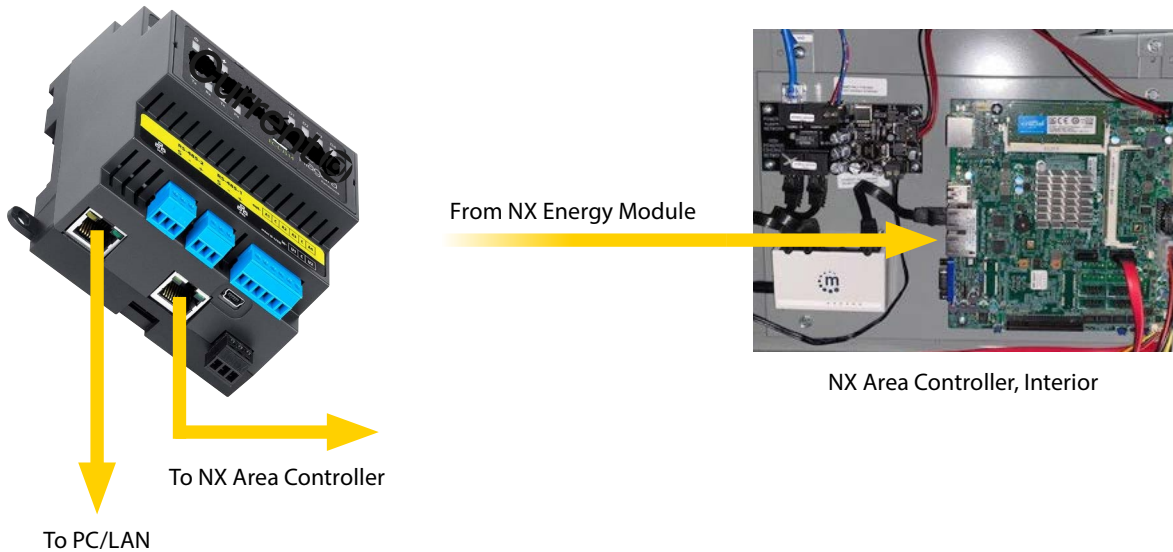

Figure 4: Network Connections
3. There are two RJ-45 Ethernet ports on the NX Energy Module (as shown in Figure 4). The primary port is dedicated for connection to the NX Area Controller. Its default static IP address is **192.168.1.2**